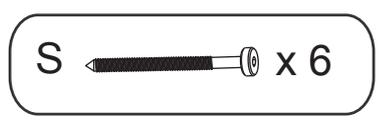

**Fig. 3**
3. Slide Large Bottom (J) into grooves in Large Lower Back and Large Front Panel (H and Q). See Figure 3.